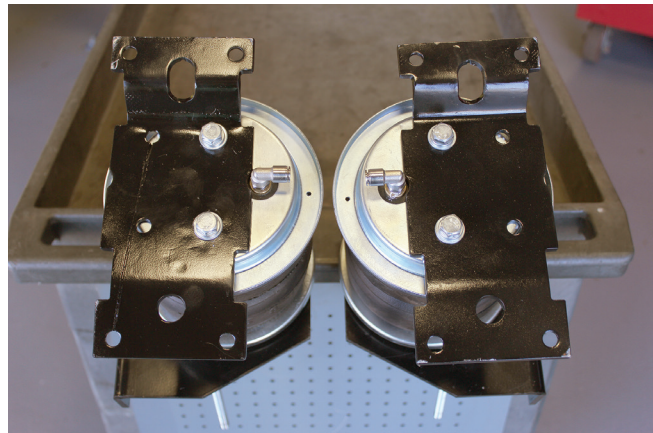

Fig. 20
7. Fig. 20 shows the driver's (left) side and passenger's (right) side assemblies.